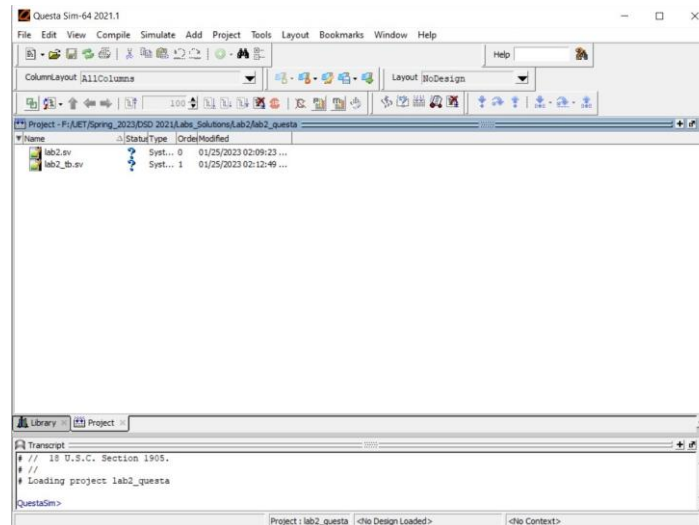

Fig. 2.7: QuestaSim project created.
5. The two files will be added to QuestaSim project (Fig. 2.7).